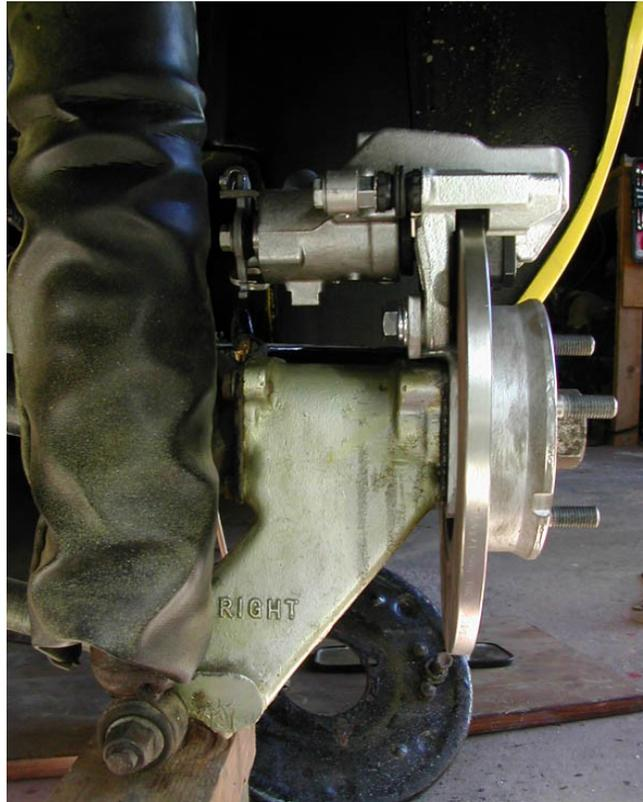

Fig 17
1. This might work with 13" steel wheels but not with 13" Cosmic alloys without the use of wheel spacers. Clearance is tight with this caliper design and the Cosmic wheel has a thick casting which hits the edges of the caliper. If you look at Fig 17 you can see the caliper body protrudes across the vertical line from the wheel mounting face on the disc top hat section, so it's very critical on wheel offset.